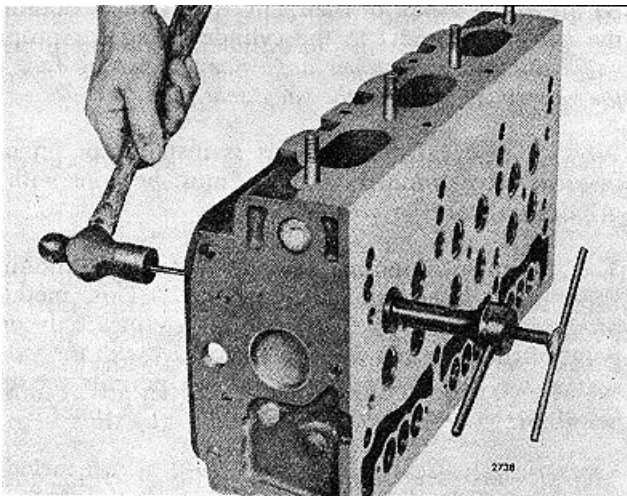

FIG. 13 - Removing Valve Seat Insert
1. Place the cylinder head on its side as shown in Fig. 13.